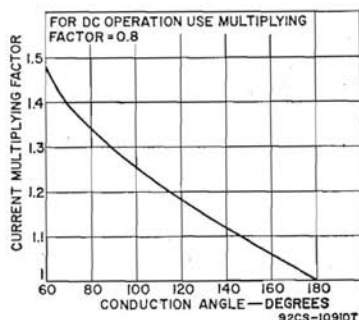
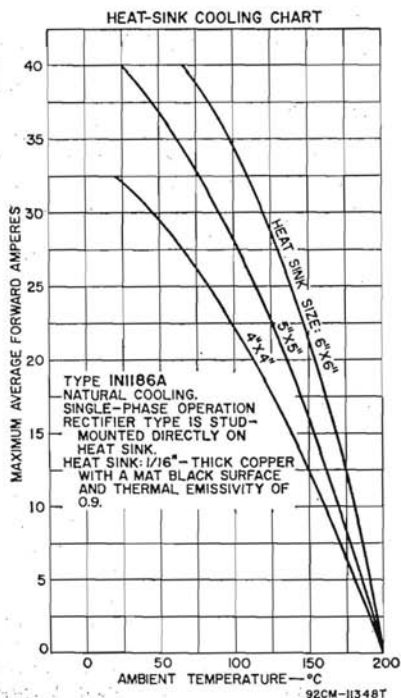

Figure 84. Current-multiplying-factor chart.
Figure 85. Typical heat-sink cooling chart.
The size of a heat sink for a given rectifier application depends upon the ambient temperature and the maximum average forward current of the rectifier. As a result, the actual size must be calculated for each application which involves an ambient temperature or forward current other than that recommended by the manufacturer. For this calculation, two charts are used: the current-multiplying-factor chart shown in Fig. 84, and the heat-sink cooling chart shown in Fig. 85. Fig. 84 applies to all rectifier types for both polyphase and dc operation; Fig. 85 differs for different rectifier types.
1. From Fig. 84, the current-multiplying factor is determined for the applicable conduction angle (i.e., the fraction of the ac input cycle during
4. This adjusted current is applied to Fig. 85 to determine either the maximum allowable ambient temperature for a given heat-sink size or the minimum heat-sink size for a given ambient temperature. (Published data may also include a chart similar to Fig. 85 for forced-air-cooling applications.)
1. From Fig. 84, the current-multiplying factor for a conduction angle of 120 degrees is 1.18.
4. From Fig. 85, the minimum heat-sink size for the above conditions is found to be 6 by 6 inches.